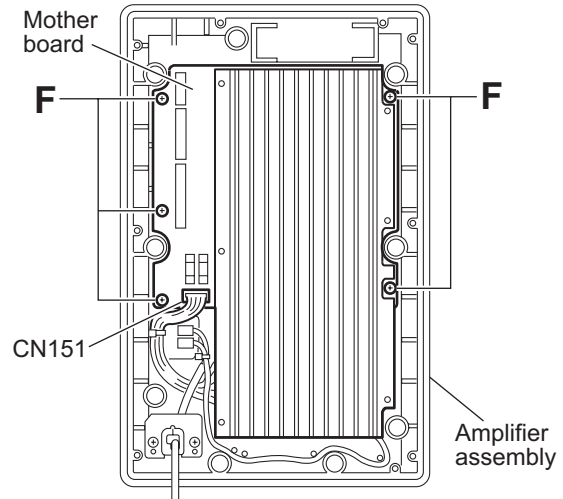

Fig.6
3.3.4 Removing the mother board assembly (See Fig.6)